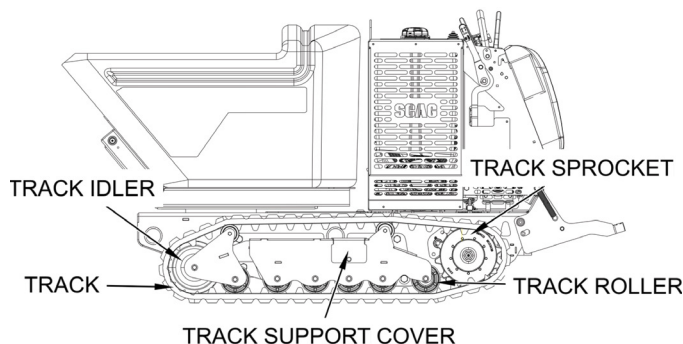

Figure 6-15. Track System
4. Remove the bolts on the track support cover and uninstall the cover to access the track tensioner assembly. See Figure 6-15.